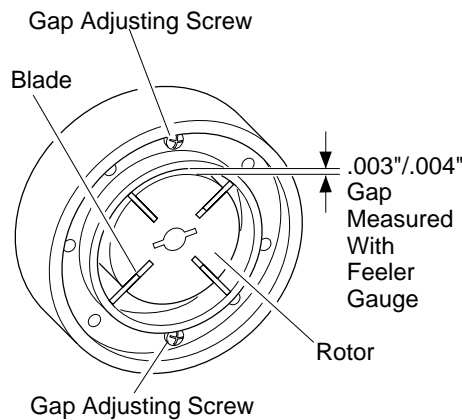

Figure 17 - Gap Adjusting Screw Locations
9. Check gap on rotor. Adjust to .003"/.004" if needed (see Figure 17).